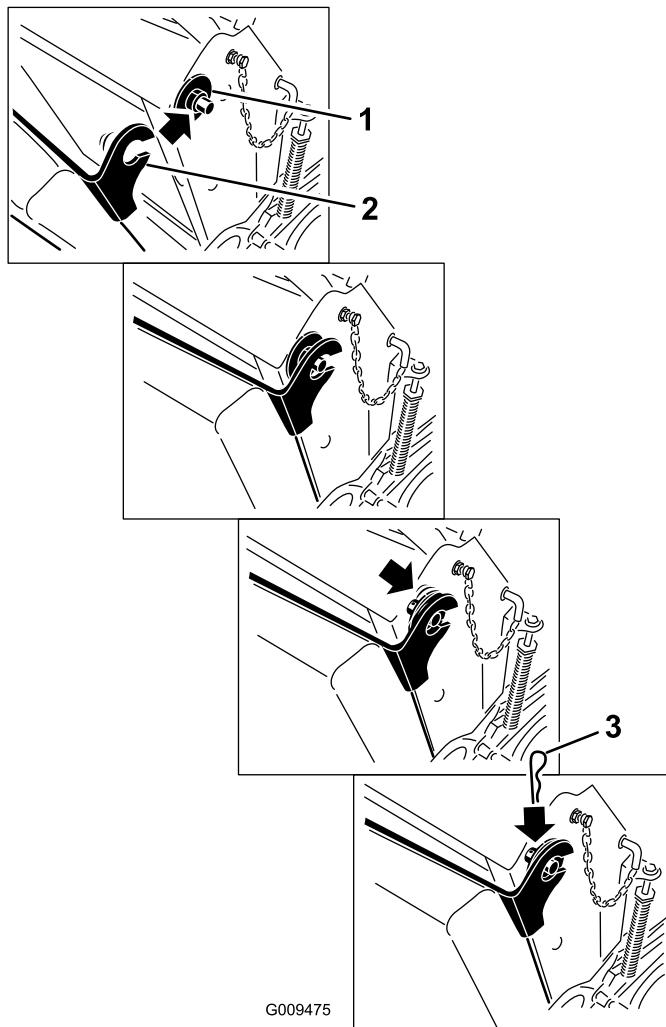

Figure 17
6. Raise the cushion and slide it onto the pins on both sides of the machine (Figure 17).